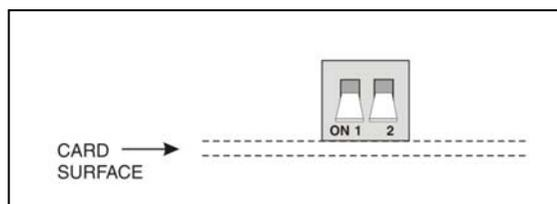

FIGURE 5-7: LAN CARD DIPSWITCH SETTING FOR SERVER MODE
17. Move the #1 switch on the S3 Dipswitch set module to the down (ON) position (FIGURE 5-7). This puts the LAN Controller in Server Mode for normal communication with the PressureMAP system.